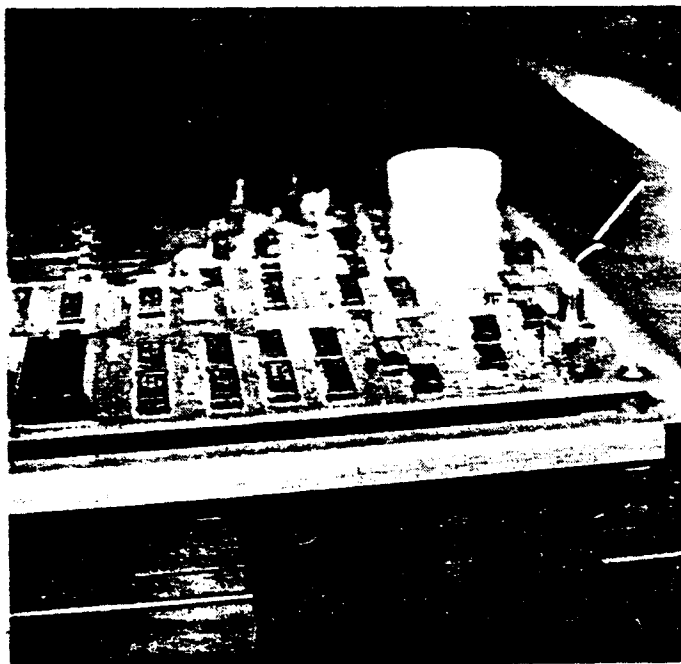

Figure 5-4
- 6) To program the attract message into E2ROM press the Option Program Switch on the Master Board for approximately 1 second until the display flashes. See Figure 5-4.